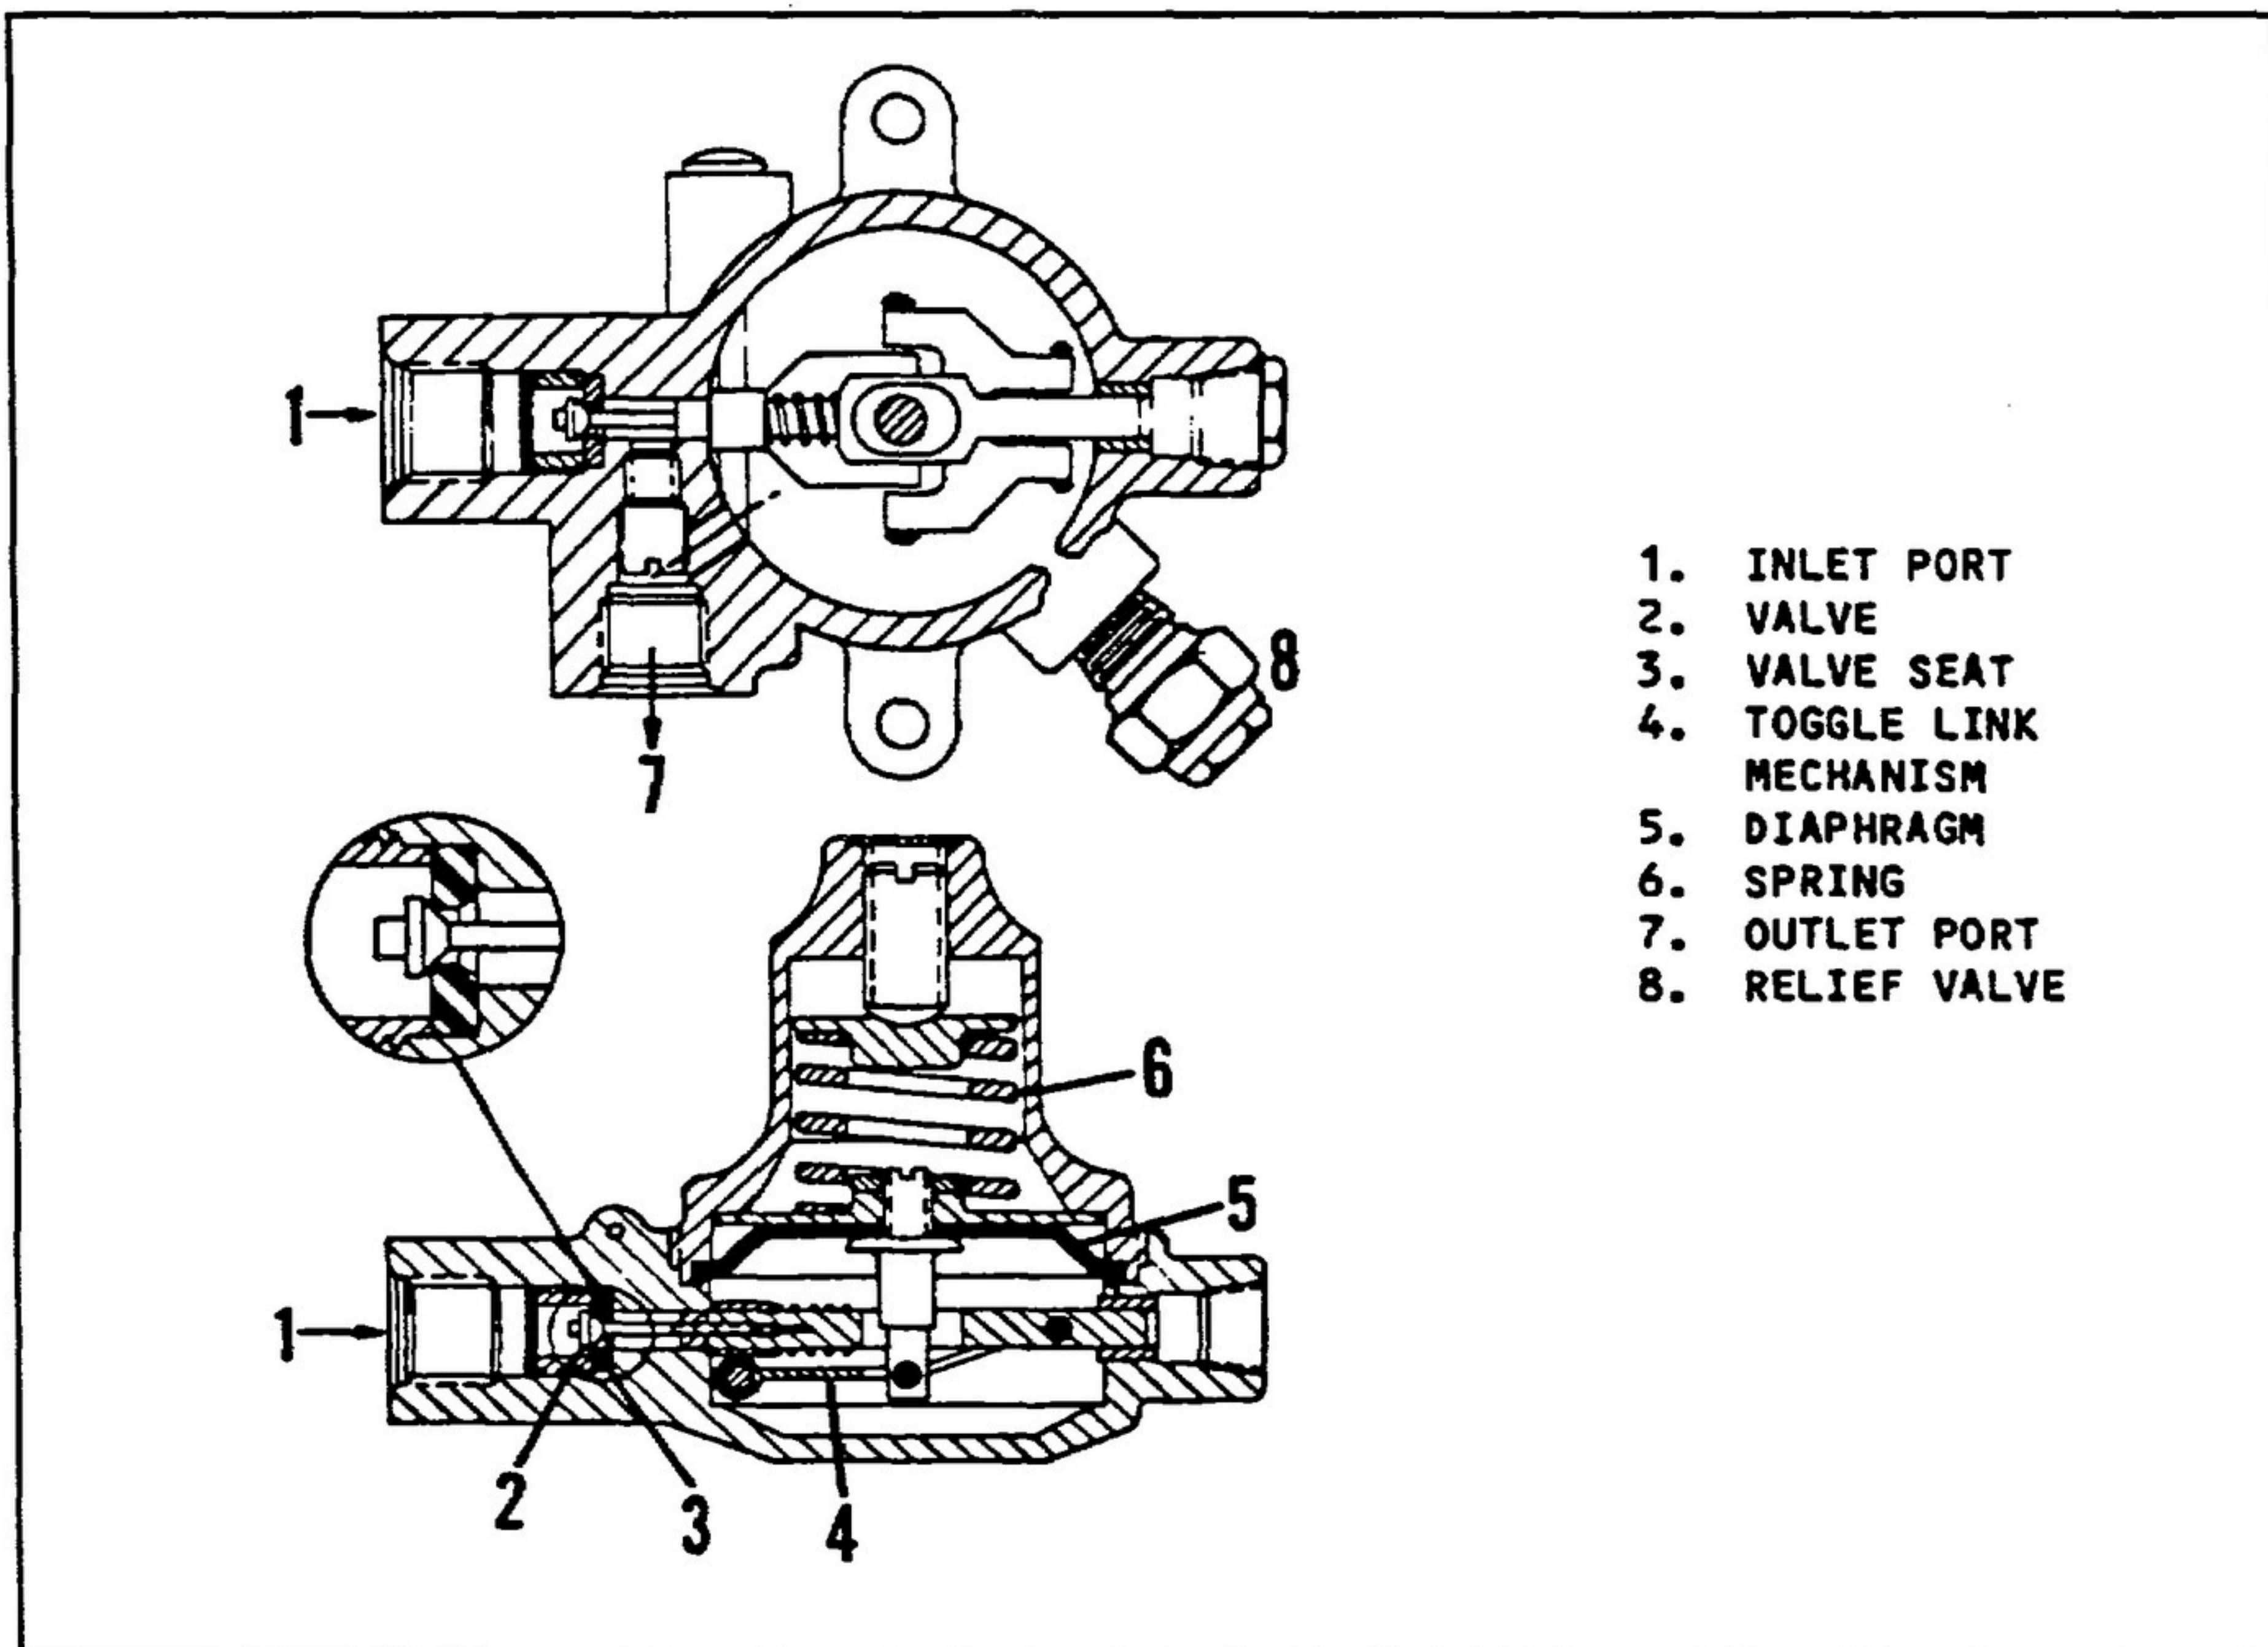

Figure 2 - Regulator Cross Section
High pressure oxygen enters the regulator through inlet port (1, Figure 2). Oxygen flow into the regulator is controlled by valve (2). Valve (2) is held against seat (3) by toggle link mechanism (4) which is maintained in the closed position by outlet pressure acting on diaphragm (5). Spring (6) force is preset and acts on the upper surface of the diaphragm. If spring force exceeds the force created by the outlet pressure acting on the diaphragm, the toggle link joint moves downward thus moving valve (2) away from its seat. This allows oxygen to flow. Flow through outlet (7) continues until outlet pressure increases sufficiently to counter-balance the spring force to close the valve. Relief valve (8) is preset to relieve at outlet pressures in excess of 100 to 110 psi, and to re-seat at reduced pressures.